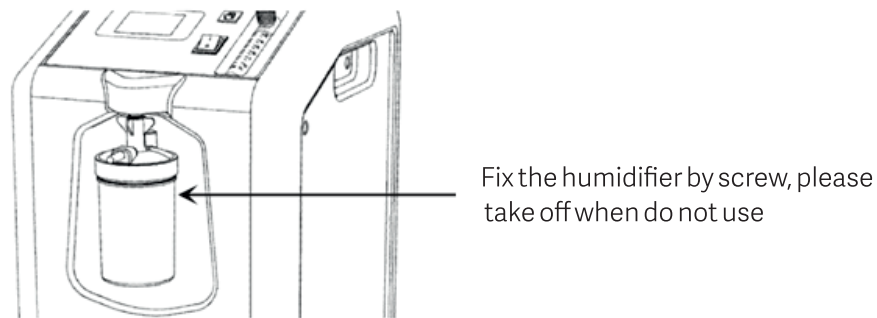

Figure 6
b. Screw the humidifier into the oxygen outlet by counterclockwise. Since the humidifier is hanging, make sure it is securely screwed onto the outlet port (see Figure 6).